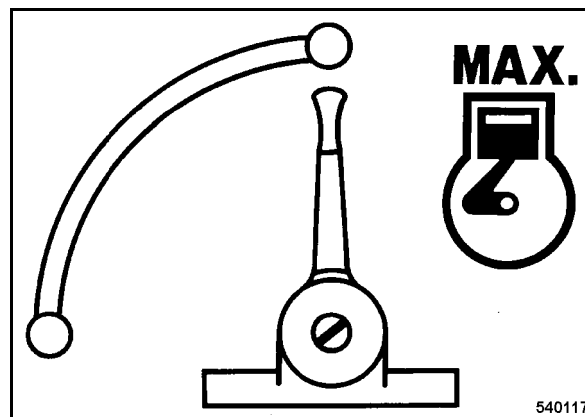

Fig. 12
- Set the throttle lever (Fig. 12) to position "MAX".